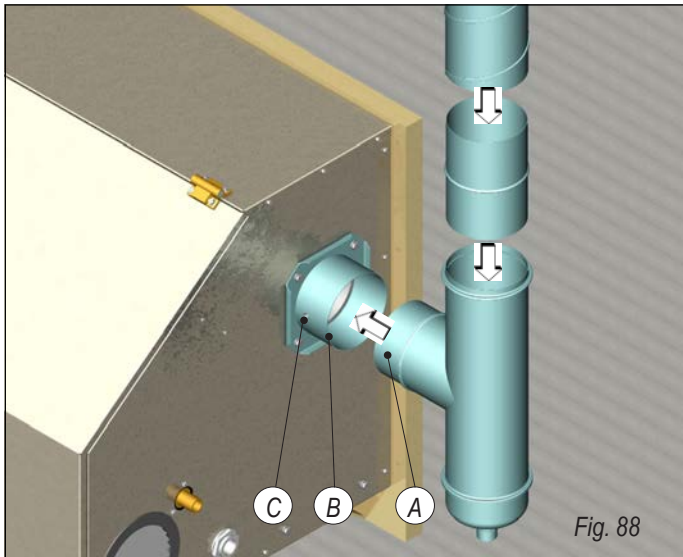
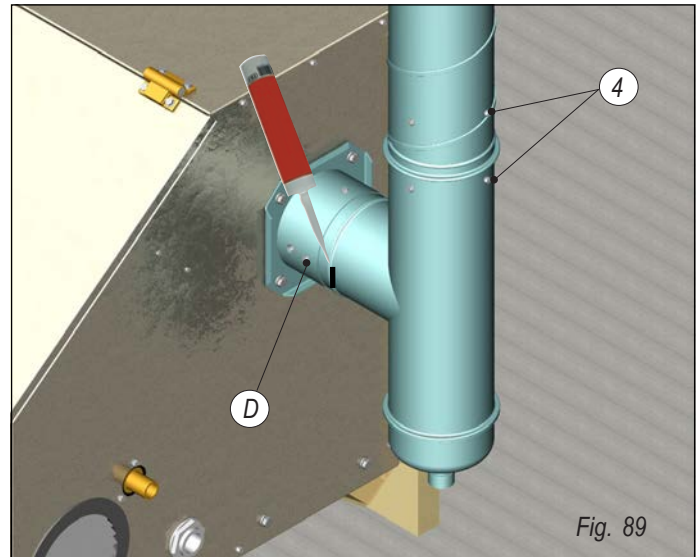

Fig. 88
Fig. 89
Insert the water trap pipe fitting (A) on the generator exhaust gas duct connection (B) until the combustion test tap nut (C), see fig. 88. Seal the water trap pipe fitting on the generator exhaust gas duct connection with red silicone, seal all the other connections with gray silicone. Fasten all the connections with 4 self-drilling screws (D), see fig. 89.